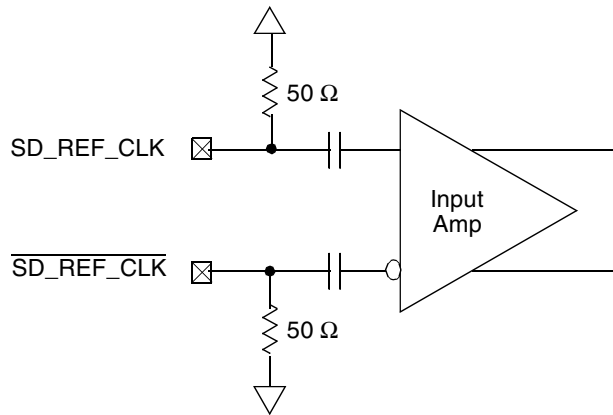

Figure 40. Receiver of SerDes Reference Clocks
Figure 40 shows a receiver reference diagram of the SerDes reference clocks.
- The `SD_REF_CLK` and `SD_REF_CLK` are internally AC-coupled differential inputs as shown in Figure 40. Each differential clock input (`SD_REF_CLK` or `SD_REF_CLK`) has a 50- $\Omega$  termination to SCOREGND followed by on-chip AC-coupling.